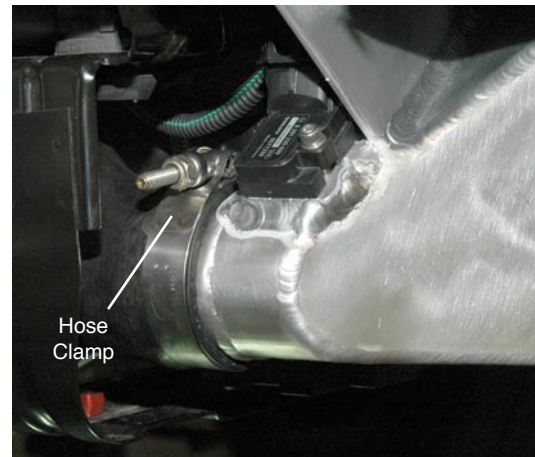

Figure 4.2
The T-Bolt hose clamps must be installed prior to installing the intercooler. Refer to Figures 4.2 and 4.3 for proper orientation of clamps to allow for correct clearance of the clamp bolts after installation.
- Position and tighten T-bolt hose clamps. Clamps should be positioned as shown in Figures 4.2 and 4.3. Be sure that the clamp bolts do not contact any surrounding components. Adjust as necessary.